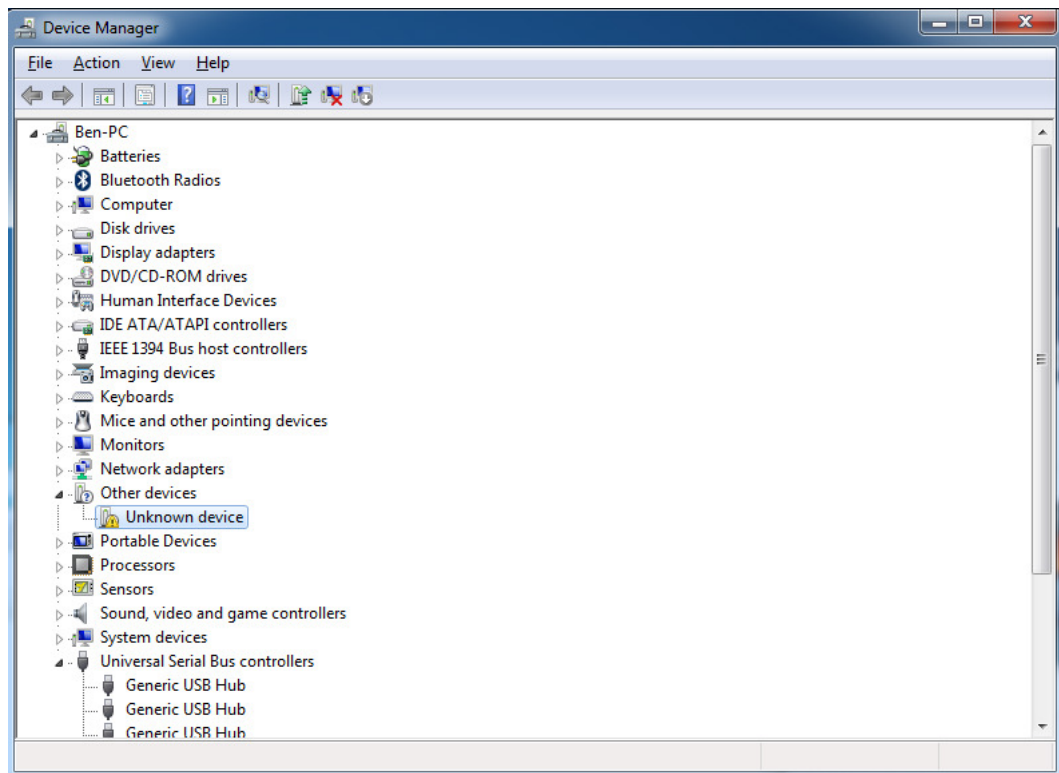

Figure 3.1: Windows device manager
7. Look for “Other devices” in the “Device Manager” list, expand and locate “Unknown device”. This may be similar to what is shown in Fig. 3.1.